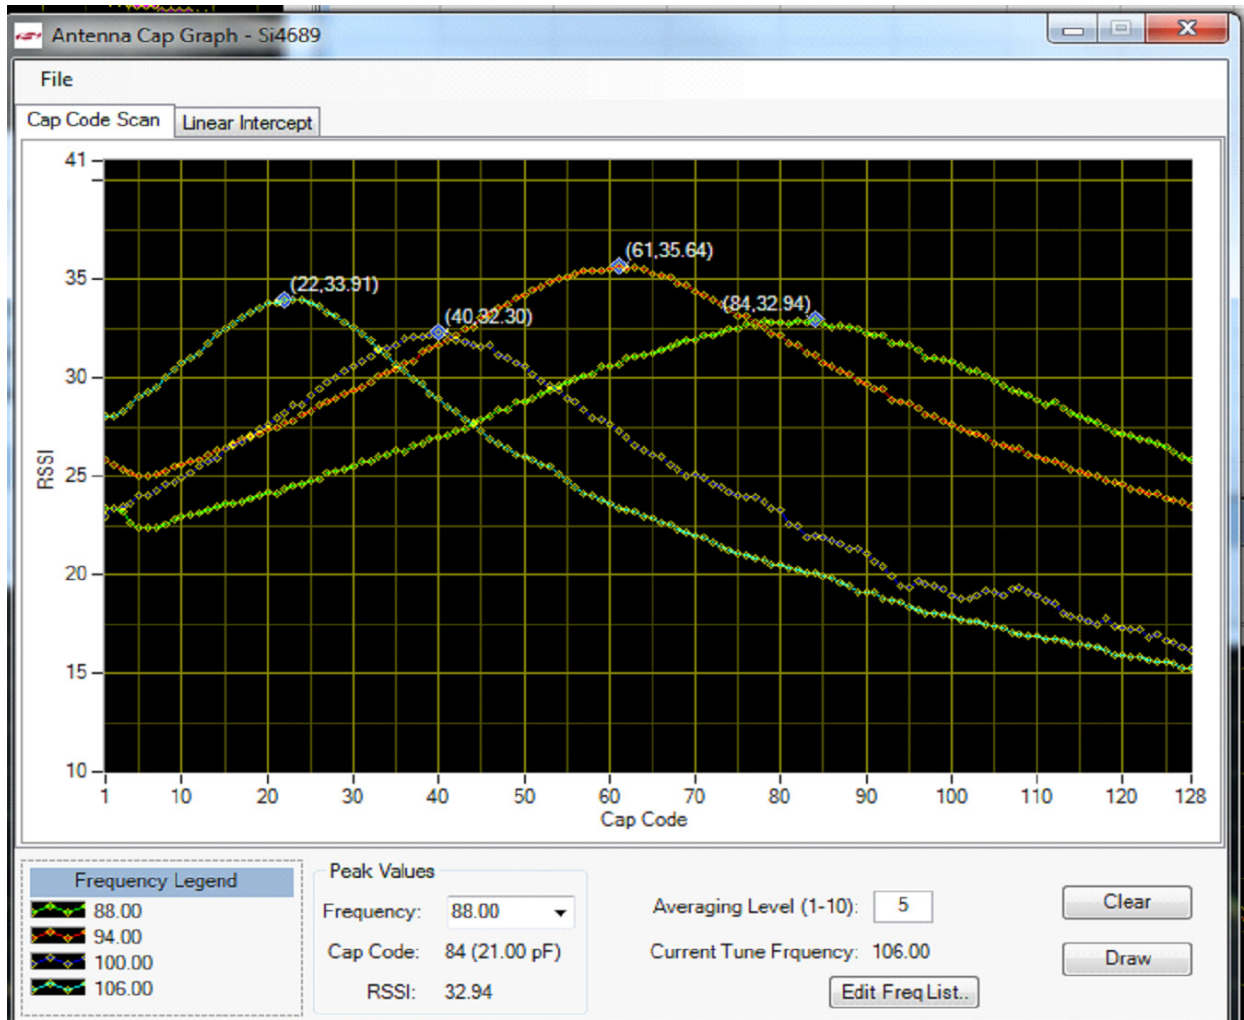

Figure 16. GUI Antenna Cap Graph for FM
Silicon Labs recommends using its EVB and the GUI to optimize the front end for a given antenna type and the cable length. The GUI has an antenna graph function, shown in Figure 16, which exercises the internal varactor capacitor across its range (1–128 counts) for finding the capacitance required to form resonance at a given frequency.
1. Initially use the Silicon Labs-recommended values for C1 (33pf) and L1 (56nh) shown in Figure 16.